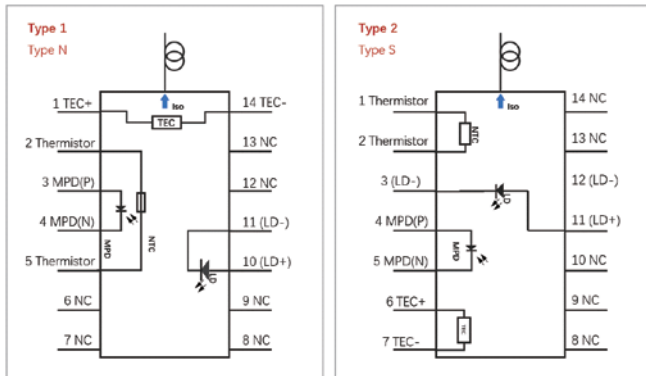

Figure 1: N-type butterfly laser Figure 2: S-type butterfly laser
- »»» Before using the butterfly laser, refer to Figures 1 and 2 to set the N/S switch to the matching position and then power on.